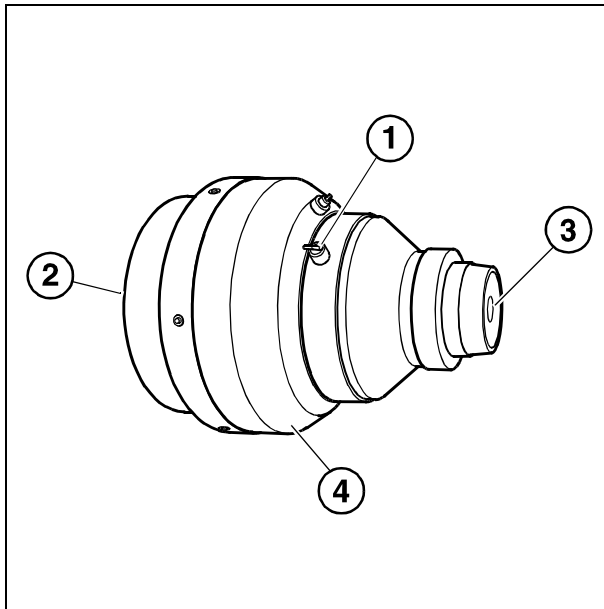

Fig. 7
- Vent the I.I. tube by pinching it open at the pump port (1/Fig. 7).
• Substances at the input screen (2/Fig. 7)	CS/NF/93/290 CSJ/NaJ Sb Cr₂O₃
• Substances at the output screen (3/Fig. 7)	phosphorus NP 1043 lead-containing solders silicone sealing compound
• Substances at the ceramics part (4/Fig. 7)	Cr₂O₃